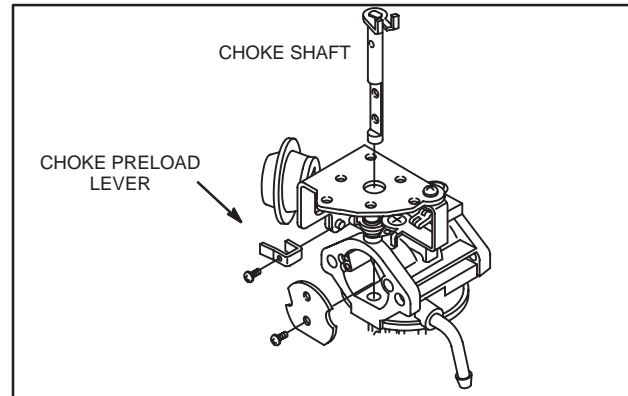

Fig. 33 – Removing Choke Shaft
7. Remove screw and choke pre-load lever, Fig. 33.
8. Remove two screws, choke plate and choke shaft, Fig. 33.